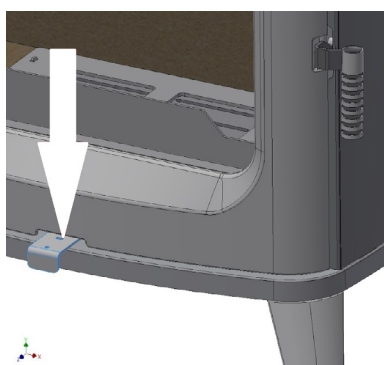

Fig. 8 - closed registers
- When the flue is hot enough, close the regulator (2). **Fig. 8.**
Close half the regulator (**Fig. 8**). The stove operating time is approximately 45/60 minutes. When combustion has ended, load the stove again. It is prohibited to load amounts of wood exceeding those specified.
Close half the regulator (**Fig. 8**). The stove operating time is approximately 45/60 minutes. When combustion has ended, load the stove again.